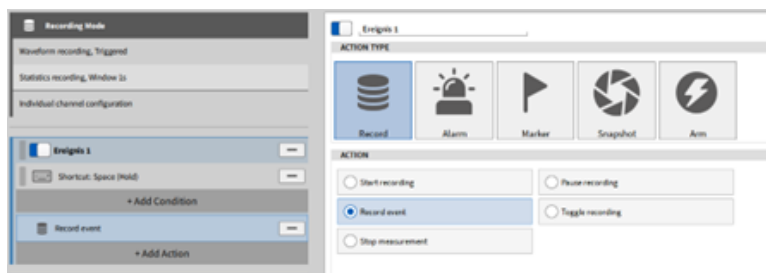

Fig. 9.36: Record Event Action Type
- Select *Record Event* as Recording Action Type (see Fig. 9.36):